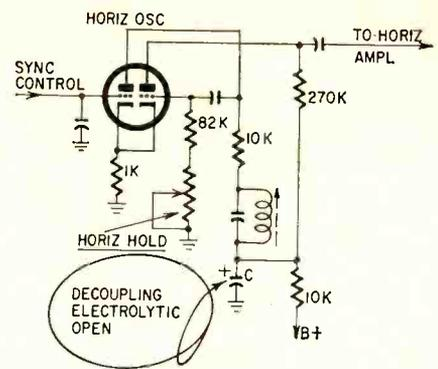

Fig. 8—An open decoupling electrolytic killed the high voltage.
**Conclusion:** Horizontal oscillator not functioning properly. Checked horizontal oscillator circuit and found open electrolytic decoupling capacitor (C in Fig. 8). Replaced it and set functioned properly.